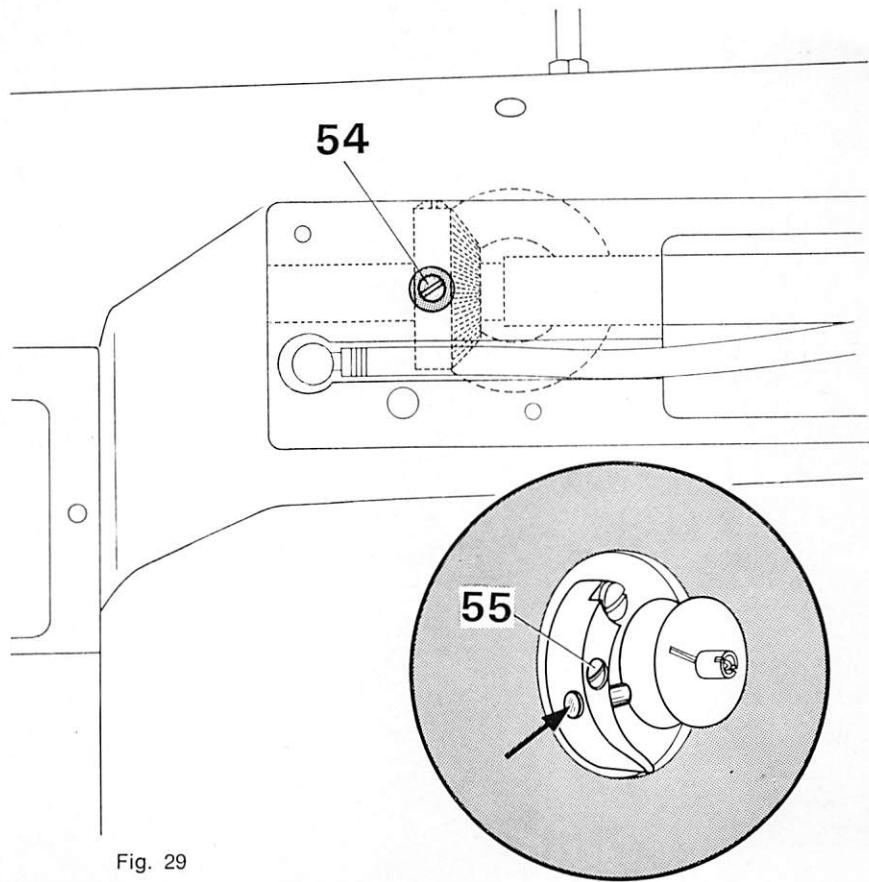

Fig. 29
27. **Adjusting the Bobbin Winder Pulley (Fig. 29)**
- 27.6 Loosen screw **55** of the regulating stud in the bobbin winder latch (see circle of Fig. 29).